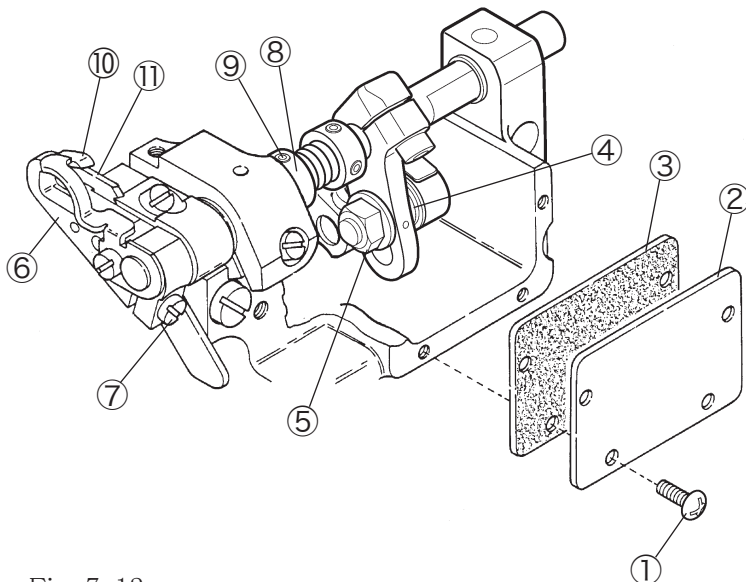

Fig. 7-12
- (1) Loosen the screws ① to remove the bracket cover ② and the bracket cover gasket ③ .
- (2) Loosen the nut ⑤ on the upper knife adjusting lever pin ④ to adjust it.
- (3) Tighten the nut ⑤ securely.
- (4) Loosen the screw ⑦ on the upper knife holder ⑥ to tighten it slightly.
- (5) Rotate the handwheel manually to lower the upper knife ⑩ at the lowest point. Move the upper knife holder ⑥ to place the upper knife tip 0.5 mm above the top of the lower knife. Then, tighten the screw ⑦ securely. (See Fig. 7-12)
- (6) Loosen the screw ⑨ on the collar(left) ⑧ . The upper knife ⑩ touches to the lower knife ⑪ with its spring.
- (7) Rotate the handwheel manually to check the sharpness of the blades by setting a thread between the upper knife ⑩ and the lower knife ⑪ .
- (8) Set the top of the lower knife ⑪ 7.0 mm apart from the upper knife ⑩ tip (at the base of the blade). Then, tighten the screw ⑨ securely. (See Fig. 7-12)
- (9) Recheck the knives cut properly.
- (10) Reset the bracket cover ② and the bracket cover gasket ③ with the screws ① .